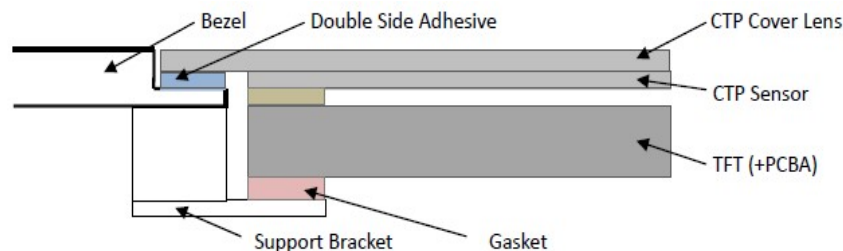

Figure 2
**8.2 Surface Mounting (Figure 2)**
**8.2 嵌入安装 (附图 2)**